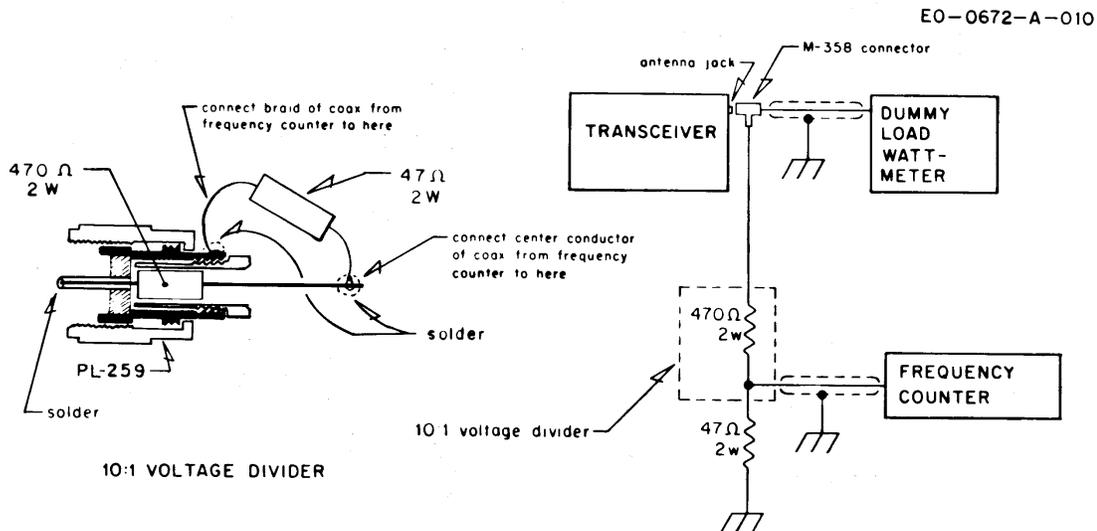

Figure 3-2
**\*NOTE:** See Figure 3-2 for connection of the frequency counter and the dummy load.